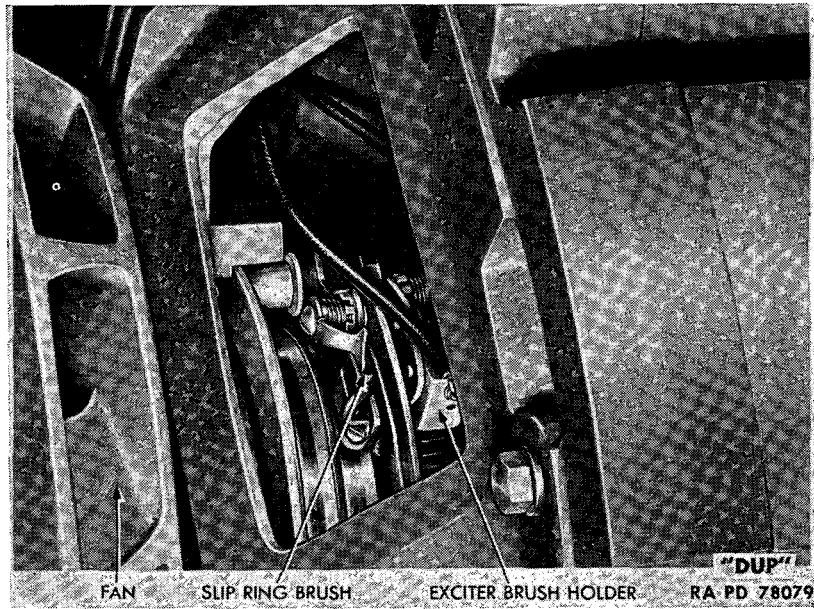
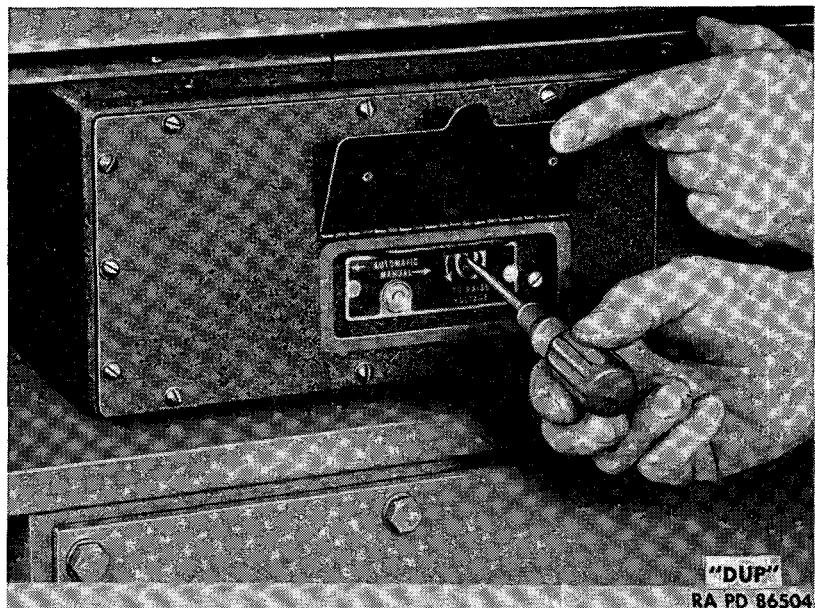

Figure 79.4—Generator M3—Brushes Installed
Figure 79.5 (Added)—Voltage Regulator Adjustment
a. Brush Inspection. At least once every 3 months, remove brush covers (d below) and visually inspect brushes. (See fig. 79.4.) If gummy, or stuck in their holders, remove and clean brushes. Clean all dirt from the brush holders. Check tightness of all pigtail connections.
d. Brush Removal (fig. 79.4).
- (1) Disconnect wire attached to trailer brake receptacle.
- (2) Unscrew nuts and screws securing generator panel to frame and remove panel.
- (3) Remove cap screws securing fan guard to generator frame. Separate fan guard by removing the attaching cap screws and nuts and lift the halves of the guard from the unit.
- (4) Using socket head screw wrench, loosen socket head screws, and lift out brush covers.
- (5) Remove screws securing brush pigtail connections to brush holders and lift out brushes.
90.5. VOLTAGE REGULATOR M1 (fig. 79.5).
c. Adjustment (fig. 79.5).
(1) Set the main power switch in "OFF" position. Start the generating unit and allow it to warm up. Turn the field rheostat handle all the way to short out all rheostat resistance. In this position the voltage would be at its maximum if the voltage regulator were not in service.
(2) Place the "AUTOMATIC-MANUAL" switch on the front panel of the voltage regulator in "AUTOMATIC" position.
(3) Adjust the output voltage to desired amount (normally 125 volts) by turning adjustment screw marked "TO RAISE VOLTAGE."